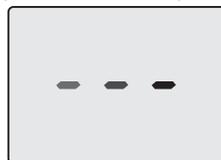
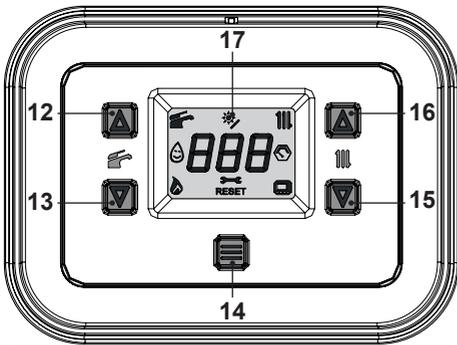

Fig. 7.9
Fig. 7.10
- Electrically power the boiler by switching on the double pole isolation switch. The LCD will display, the    symbol (Fig. 7.9).
- Press the 14 key for 5 seconds until both  and  symbols appear on the display Fig. 7.10.
- Switch off the boiler by pressing the 14 (Fig. 7.10) key for 5 seconds until the  symbol appears on the LCD display (Fig. 7.9).
Press the reset key on the boiler control panel 14 (Fig. 7.10) to reset its functioning.